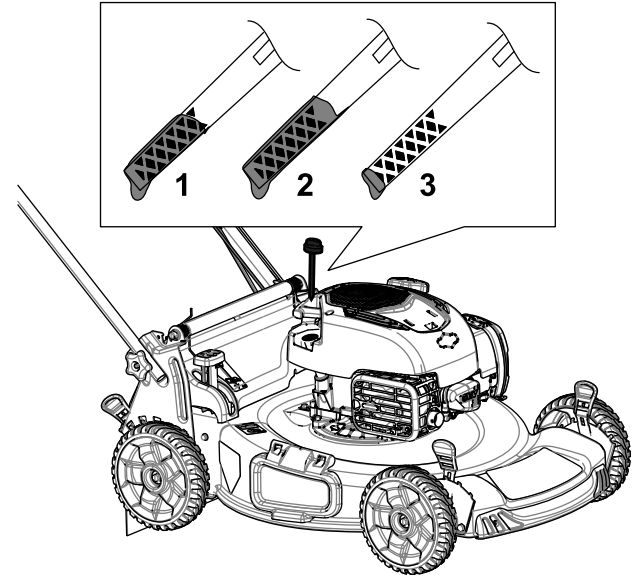

Figure 11
2. Remove the dipstick by rotating the cap counterclockwise and pulling it out (Figure 11).
5. Read the oil level on the dipstick (Figure 11).
- If the oil level on the dipstick is too low (Figure 11), carefully pour a small amount of SAE 30 or SAE 10W-30 detergent oil into the oil-fill tube, wait 3 minutes, and repeat steps 3 through 5 until the oil on the dipstick is at the correct level. For the oil type, refer to Changing the Engine Oil (page 18).
- If the oil level on the dipstick is too high (Figure 11), drain the excess oil until the oil on the dipstick is at the correct level; refer to Changing the Engine Oil (page 18).